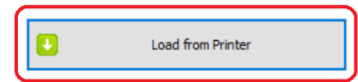

Figure 3
6. Click Load from Printer (figure 3 below).